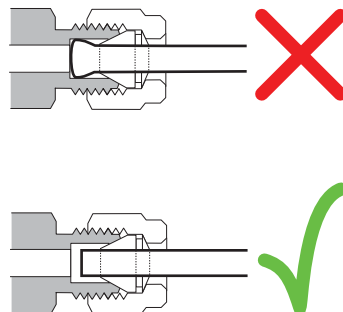

Figure 30 Completed fitting
- 11** Both correctly- and incorrectly-swaged connections are shown in Figure 30. Note that the end of the tubing in a correctly-swaged fitting is not crushed and does not interfere with the action of the ferrules.